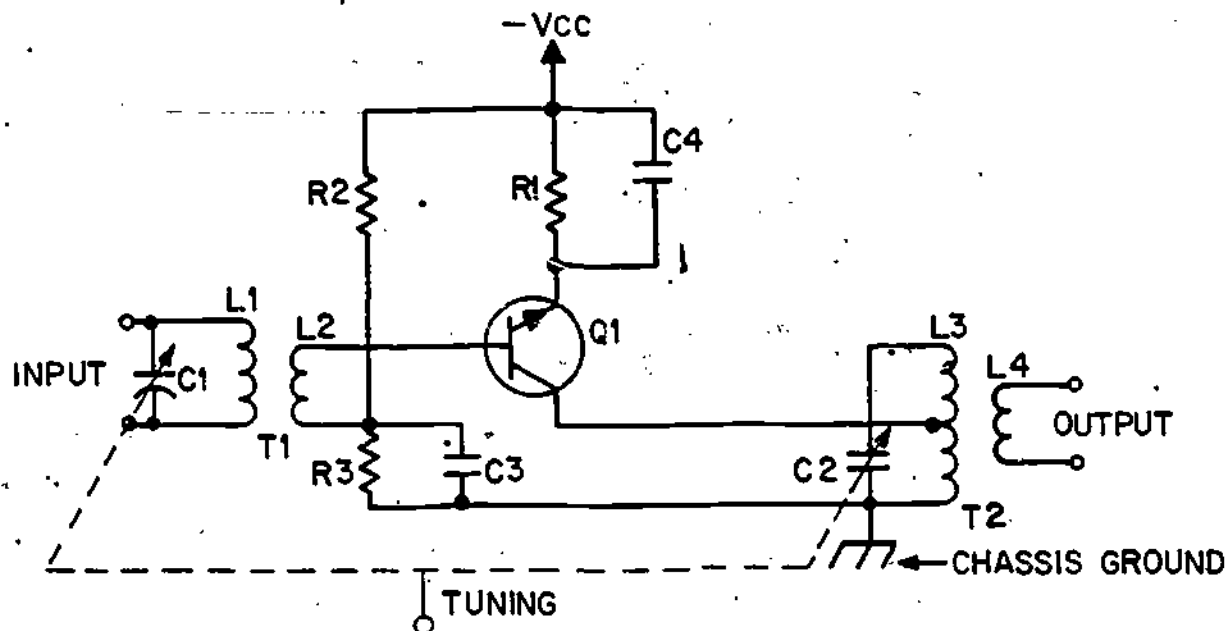

Figure 21
- (24.) Look carefully at Figure 21 and compare it to Figure 20.